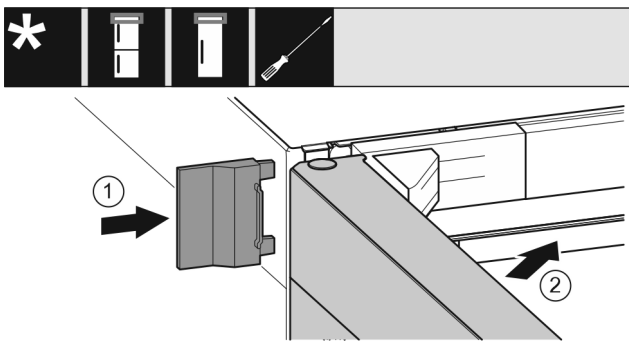

Fig. 20
- ▶ Slide on the outer cover. *Fig. 20 (1)*
- ▶ Close the upper door. *Fig. 20 (2)*